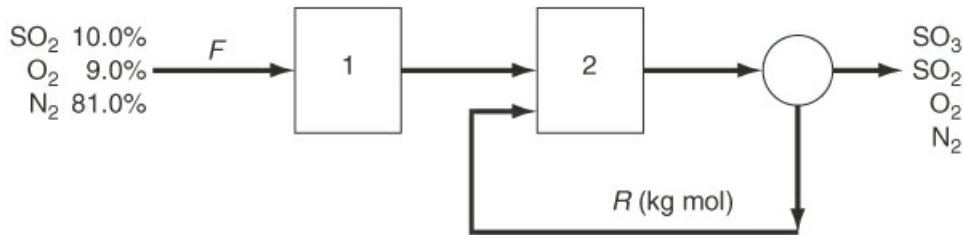

Figure P5.3.21
***5.3.21 Sulfur dioxide may be converted to SO_3 , which has many uses, including the production of H_2SO_4 and sulfonation of detergent. A gas stream having the composition shown in Figure P5.3.21 is to be passed through a two-stage converter.